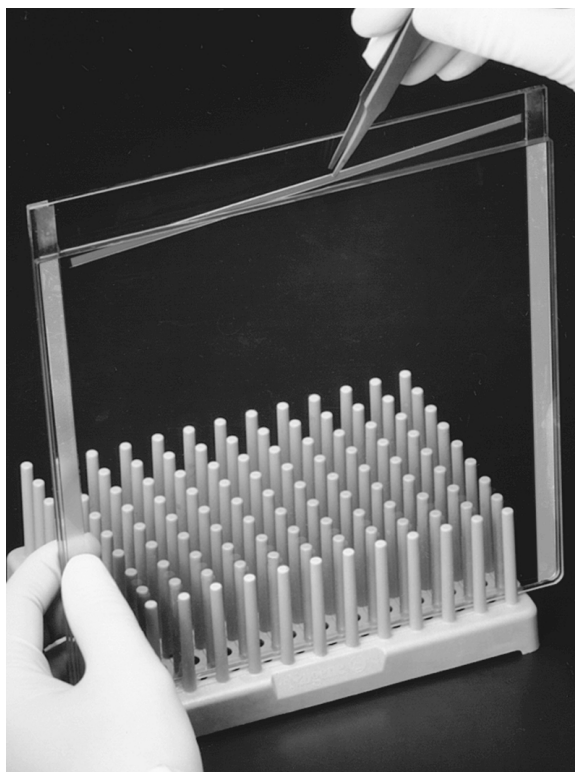

Fig. 13. Sliding ReadyStrip into IPG well filled with melted overlay agarose.
- Using the forceps, carefully push the strip into the well as shown in Figure 13, taking care not to trap any air bubbles beneath the strip. When pushing the IPG strips with the forceps be certain the forceps are pushing on the plastic backing to the strip and not the gel matrix.